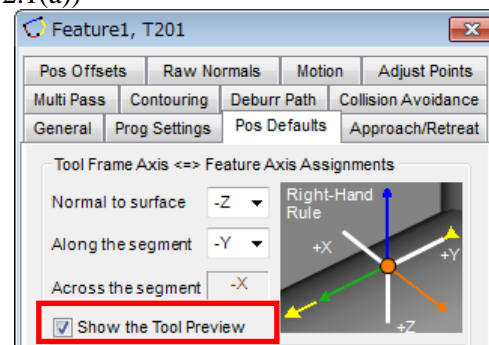

Fig. 3.3.2.1(a) Enabling "Show the Tool Preview"
- 2 On the "Raw Normals" tab of the feature property page, enable "Override and Blend raw normals" and click the "Apply" button. Enter an inclination angle in "Rotate:Along the segment" and "Rotate:Across the segment" under "Start Normal Offset" and "End Normal Offset" and check the orientation of the tool. (Fig. 3.3.2.1(b))